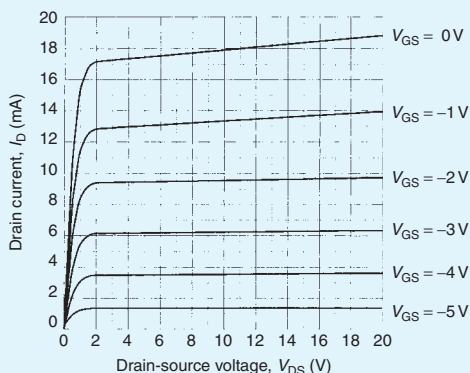

Figure 12.28
7. The output characteristics of a JFET are shown in Fig. 12.28. If this device is used in an amplifier circuit operating from an 18 V supply with a gate-source bias voltage of $-3\ \text{V}$ and a load resistance of $900\ \Omega$, determine (a) the quiescent values of drain-source voltage and drain current, (b) the peak-peak output voltage when an input voltage of 2 V peak-peak is applied, and (c) the voltage gain of the stage.